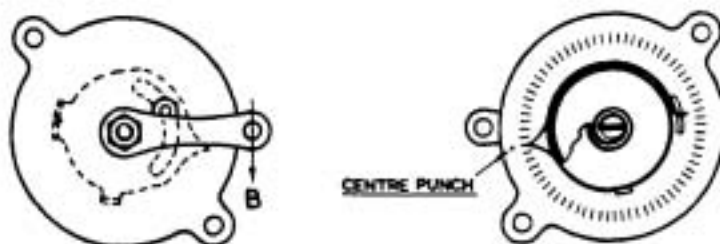

FIG. 9. BI-METAL COIL ADJUSTMENT.
2. With the lever as shown in Fig. 9, the coils are to be pre-set so that a total weight of 178 - 181 grammes acting at "B" just moves the lever clear of the stop.